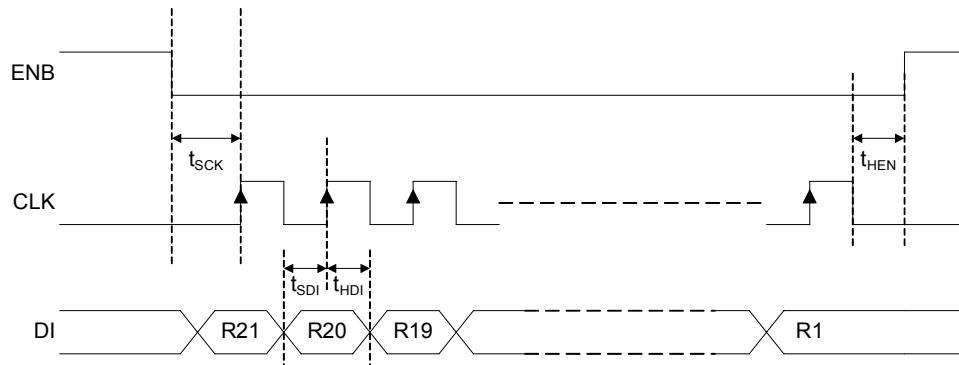

FIGURE 27. TIMING DIAGRAM FOR PROGRAMMING THE INTERNAL REGISTERS OF THE QLx4600-S30
Pins 16 (DI), 45 (ENB), and 46 (CLK) are used to program the registers inside the QLx4600-S30. Figure 27 shows an exemplary timing diagram for the signals on these pins. The serial bus can be used to program a single QLx4600-S30 according to the following steps:
The DO pin (pin 17) can be used to daisy-chain the serial bus among multiple QLx4600-S30 chips. The DO pin outputs the overflow data from the DI pin. Specifically, as data is pipelined into a QLx4600-S30, it proceeds according to the following flow. First, a bit goes into shadow register 1. Then, with each clock cycle, it shifts over into subsequent higher numbered registers. After shifting into register 21, it is output on the DO pin on the same clock cycle. Thus, the DO signal is equal to the DI signal, but delayed by 20 clock cycles. The timing diagram for the DO pin is shown in Figure 27 where the first 20 bits output from the DO are indefinite and subsequent bits are the data fed into the DI pin. The delay between the rising clock edge and the data transition is t_{CO} .